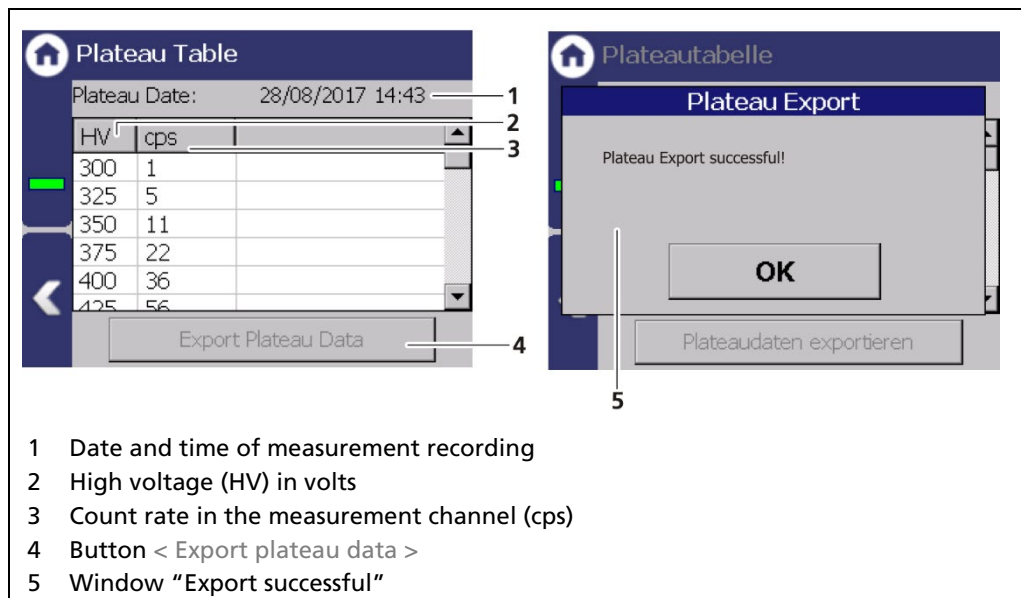
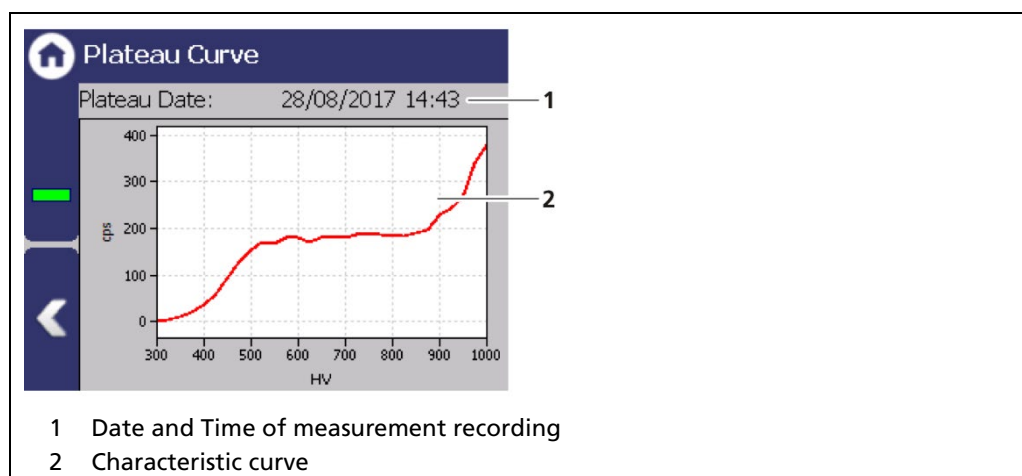

Fig. 61 Plateau table
Fig. 62 Plateau Curve
- ▶ The recorded values are read and entered into the table (Fig. 61), the plateau curve (Fig. 62) is drawn and stored automatically.
2. Click on the button < Export plateau data > (Fig. 61, item 4).
The mapped characteristic curve (Fig. 62, item 2) of the last complete plateau measurement is displayed in the window "Plateau Curve".